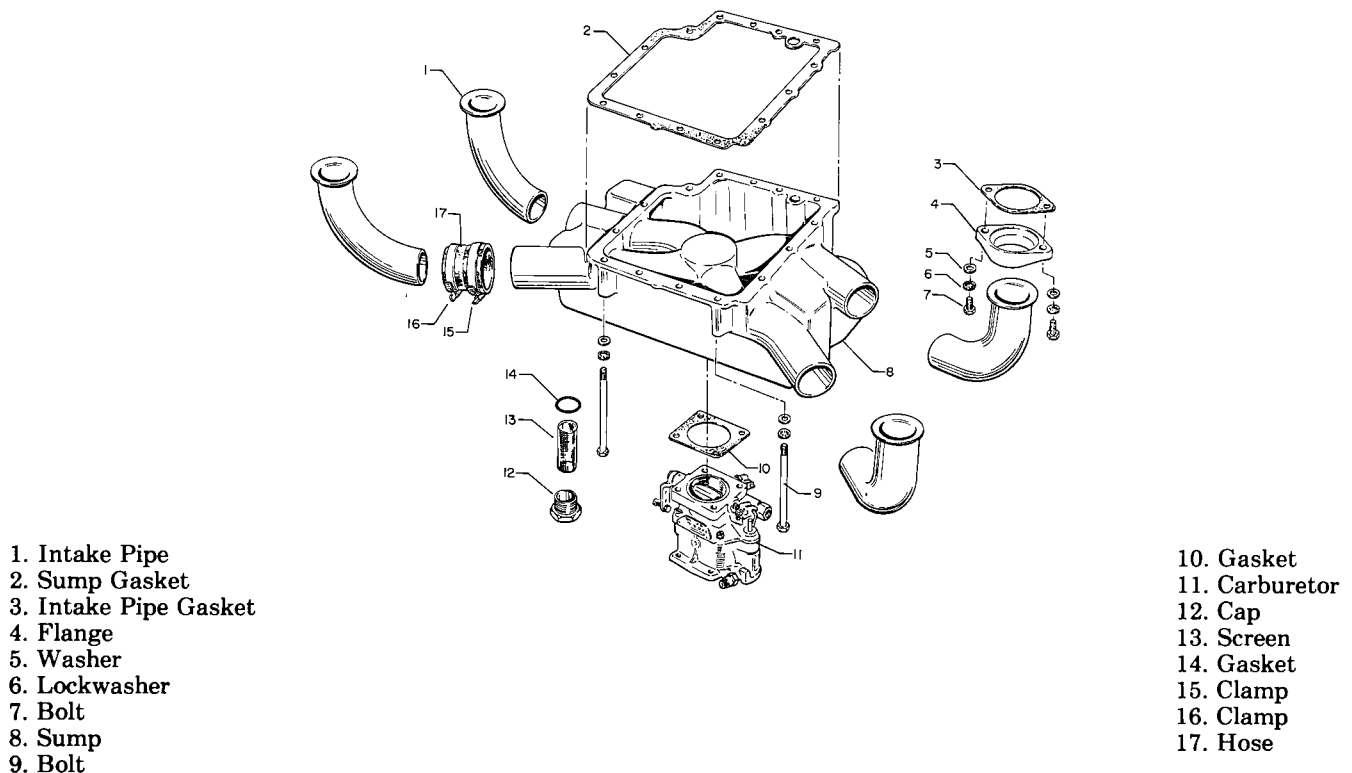

Figure 6-1. Oil Sump and Related Parts
6-4. Oil Suction Screen. See figure 6-1 or 6-2. Unscrew the hex head plug and remove gasket and suction screen.
6-13. *Intake Pipes.* See figure 6-1 or 6-2. Slide an intake pipe flange (4) over each intake pipe (1). Assemble hose (17) and two clamps (15 and 16) over end of intake pipe and install on sump. Place a new gasket (3) over the intake port and secure the flange to the cylinder. Tighten hose clamps on hose.